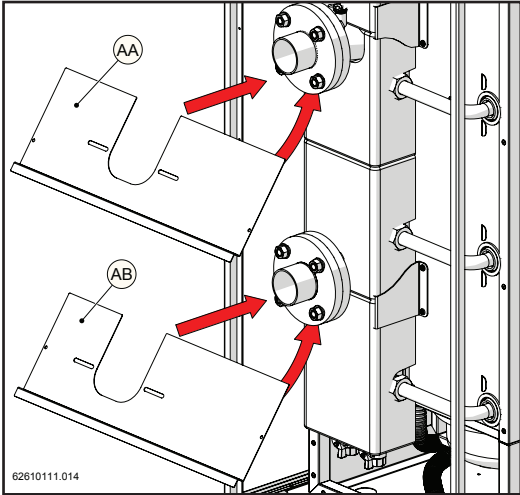
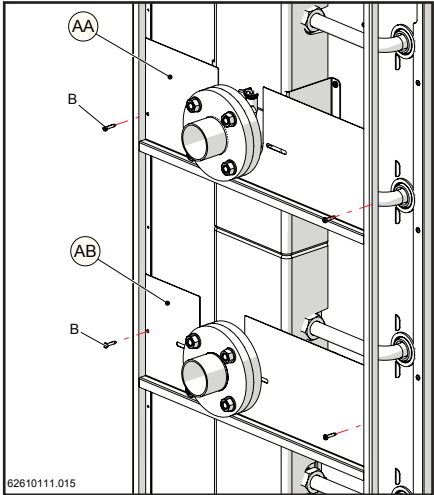
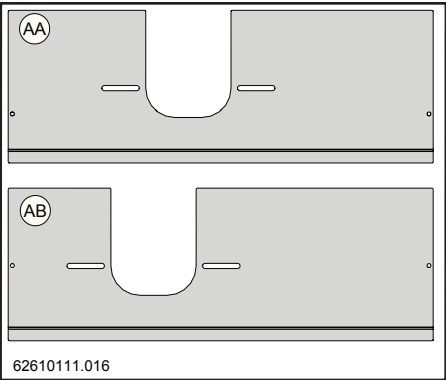

Figure 15-48
Figure 15-49
Figure 15-50
- 9.- Position metal sheets (AA) and (AB) (figure 15-50) in the direction shown in figure 15-48. Then attach them to the framework of the external cover with screws "B" (figure 15-49).